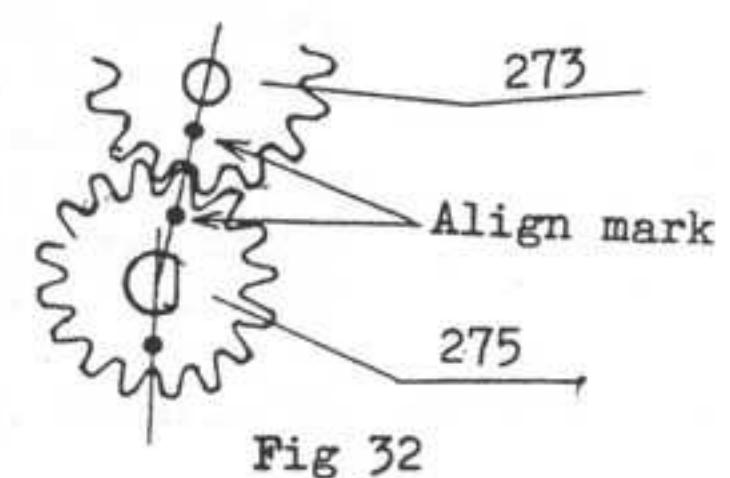

Fig. 32
Fix Shutter speed gear "C" (273) interlocking with Speed gear shaft (275) as shown in Fig. 32, place Shutter speed gear "C" hold (271) on, and fix them with Shutter speed gear "C" screw (272).